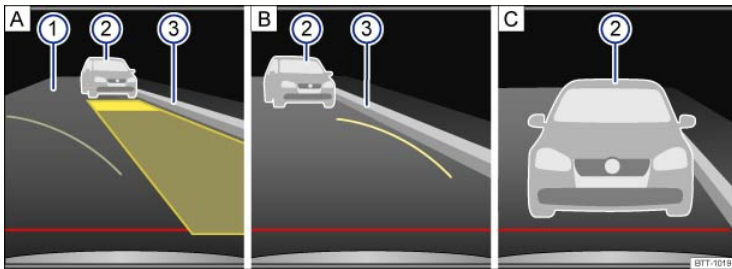

Fig. 163 On the screen: Orientation guides and surfaces of the parking area behind the vehicle.
Key to ⇒ Fig. 163:
2.	Shift into Reverse (R).
4.	Back up slowly and steer the vehicle so that the yellow surface on the screen is flush with the side boundary ⇒ <a href="#">Fig. 163③</a> of the selected parking space (such as the curb) ⇒ <a href="#">Fig. 163②</a> and stops short of any obstacle such as another vehicle ⇒ <a href="#">Fig. 163A</a> .
7.	Once the yellow line touches the side boundary ⇒ <a href="#">Fig. 163③</a> of the selected parking space ⇒ <a href="#">Fig. 163B</a> , such as a painted line or a curb stop the vehicle and turn the steering wheel as far as it will go in the opposite direction.
8.	Continue backing up until the vehicle is positioned in the parking space parallel to the roadway ⇒ <a href="#">Fig. 163①</a> .